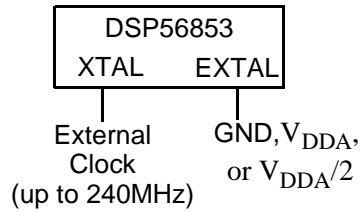

Figure 9. Connecting a High Speed External Clock Signal using XTAL
The recommended method of connecting an external clock is given in Figure 9. The external clock source is connected to XTAL and the EXTAL pin is held at ground, V_{DDA} , or $V_{DDA}/2$. The TOD_SEL bit in CGM must be set to 0.
1. See **Figure 9** for details on using the recommended connection of an external clock driver.